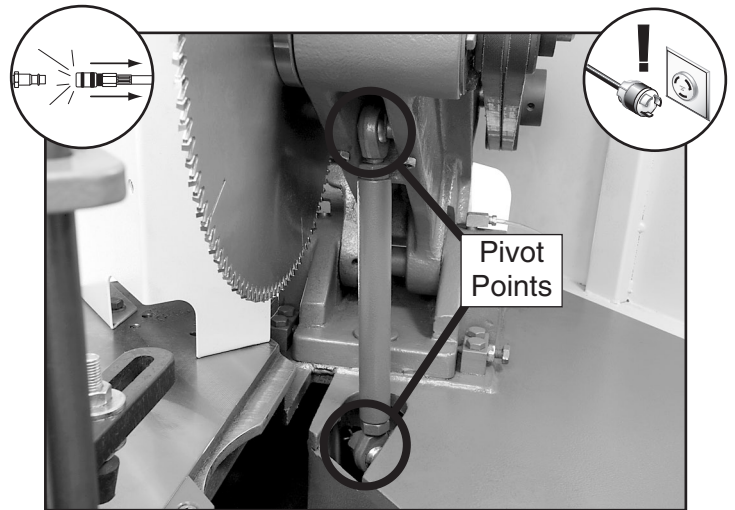

Figure 37. Tie-rod pivot points (one side shown).
3. Raise the front guard up, and remove the inner blade guard and blades to access the tie-rods (see **Figure 37**).